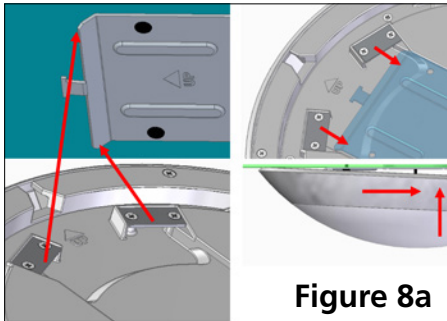
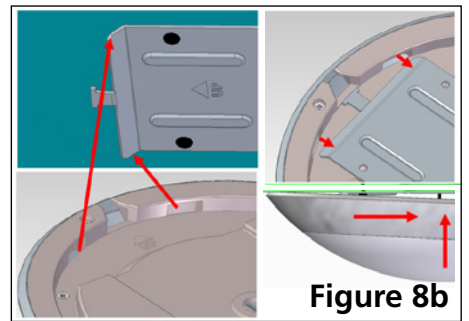

Figure 8a
Figure 8b
8. Secure fixture to canopy plate with the corners of canopy plate latch to the fixture brackets as shown in Figure 8a (PR17) or Figure 8b (PR13).